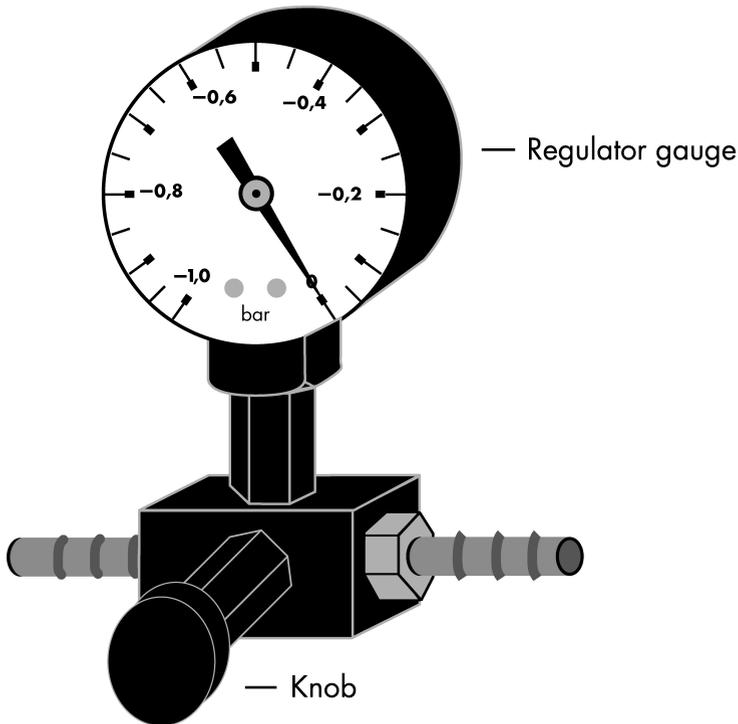

Figure 2. Schematic diagram of the Vacuum Regulator.
- The vacuum pressure is the pressure differential between the inside of the vacuum manifold and the atmosphere (standard atmospheric pressure 1013 millibar or 760 mm Hg) and can be measured using the QIAvac Connecting System or a vacuum regulator (see Figure 2). The vacuum protocol requires a vacuum pump capable of producing a vacuum of -800 to -900 mbar (e.g., QIAGEN, Vacuum Pump). Higher vacuum pressures must be avoided. Use of vacuum pressures lower than recommended may reduce DNA yield and purity and increase the frequency of clogged membranes.
Switch off the vacuum between steps to ensure that a consistent, even vacuum is applied during processing. For faster vacuum release, a vacuum regulator should be used (see Figure 2).